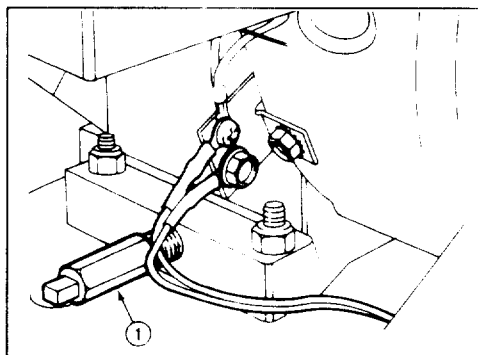

Figure 22
3. Clean area around oil drain plug. Next, slide oil drain pan below drain extension; then remove oil drain plug (Fig. 22).